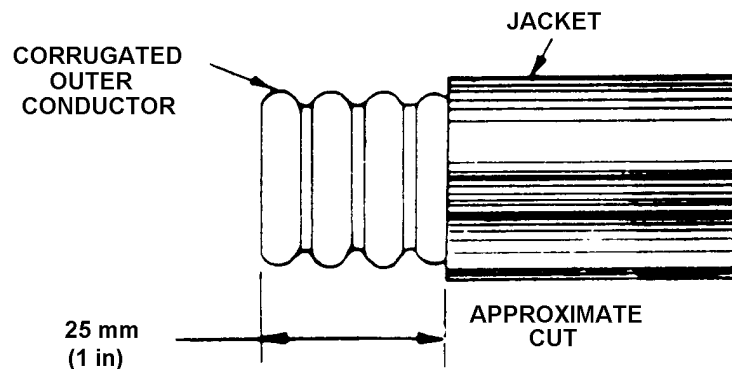

Figure 1.20 - Preparing the Cable
(Figures 1.20 to 1.29 are reproduced by permission of Andrew Antennas).
- 8.1 Ensure that the end of the cable is straight for at least 10 in. (250mm). Using a knife, remove approximately 1 in. of the jacket. Deburr the sharp end of the cut outer conductor (see Figure 1.20).